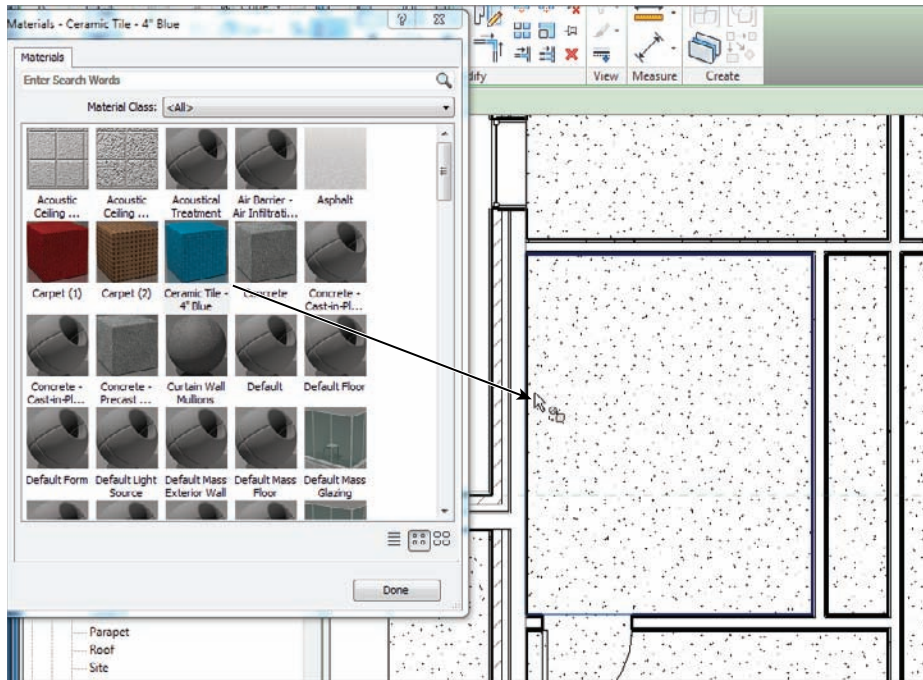

FIGURE 6.44 Filling the region with the new material
3. With the Material dialog box still on the screen, move your cursor over the region you just created. Notice the material icon next to your cursor, as shown in Figure 6.44.